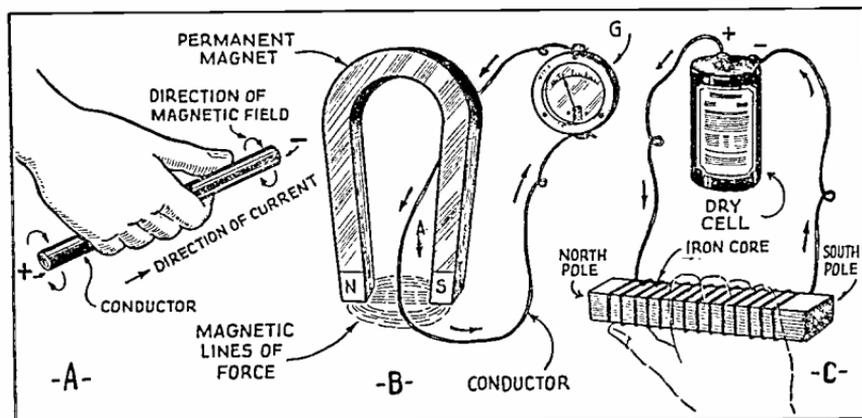

Fig. 2. Illustrating the effects of electro-magnetism and the principle of generation of electricity.
**INDUCTANCE:** We have learned in connection with Fig. 2 that current is induced in a conductor when it cuts magnetic lines of force. If current is caused to flow in a conductor a magnetic field is built up around the conductor. As this field builds up, it cuts the same conductor which it encircles, and induces a *counter electromotive force*, resulting in a current in the opposite direction